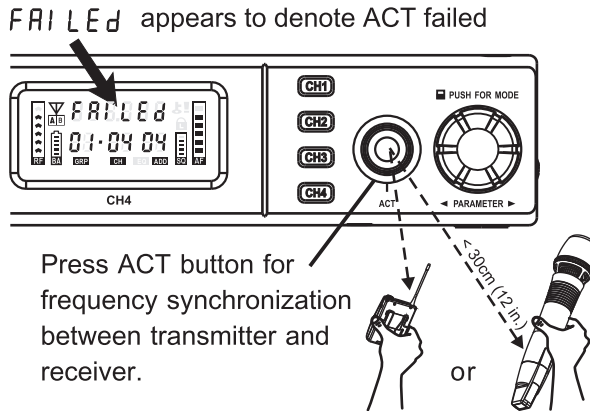

Fig. 17
(F) ACT Sync Setting, Fig. 17: